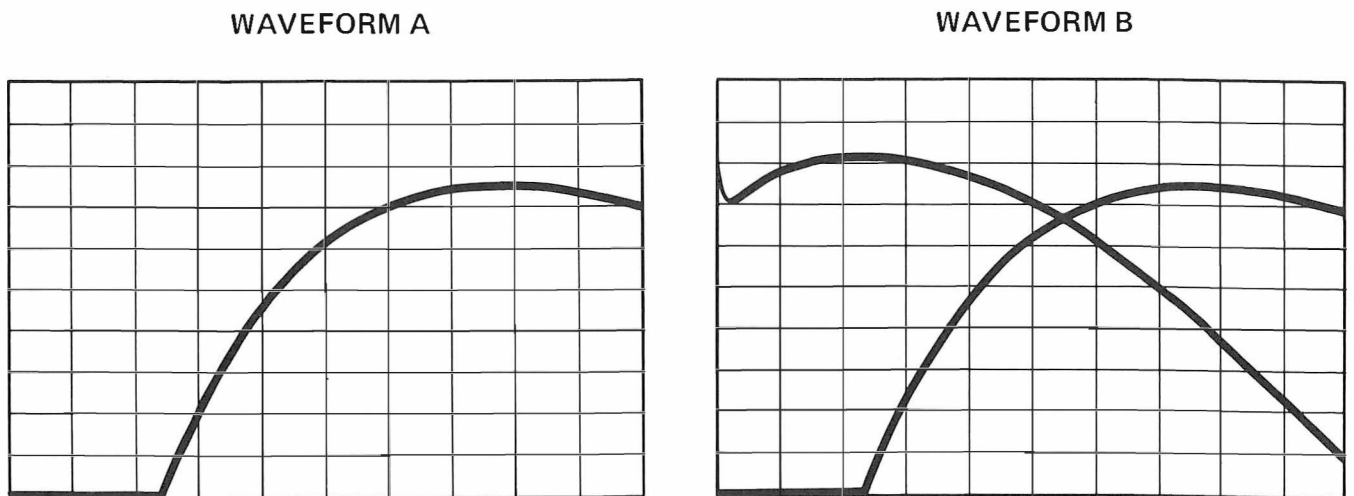

Figure 5-68. Spectrum Analyzer Waveforms of YO Loop Gain
7. A trace similar to Figure 5-68, Waveform A should be displayed on the Spectrum Analyzer.
8. On the 3585A Spectrum Analyzer, press [STORE A→B] to store the trace from A into Trace B. On the Special Test Fixture, set switch S1 to position 2. The 3585A Spectrum Analyzer should display the two traces similar to Figure 5-68, Waveform B.